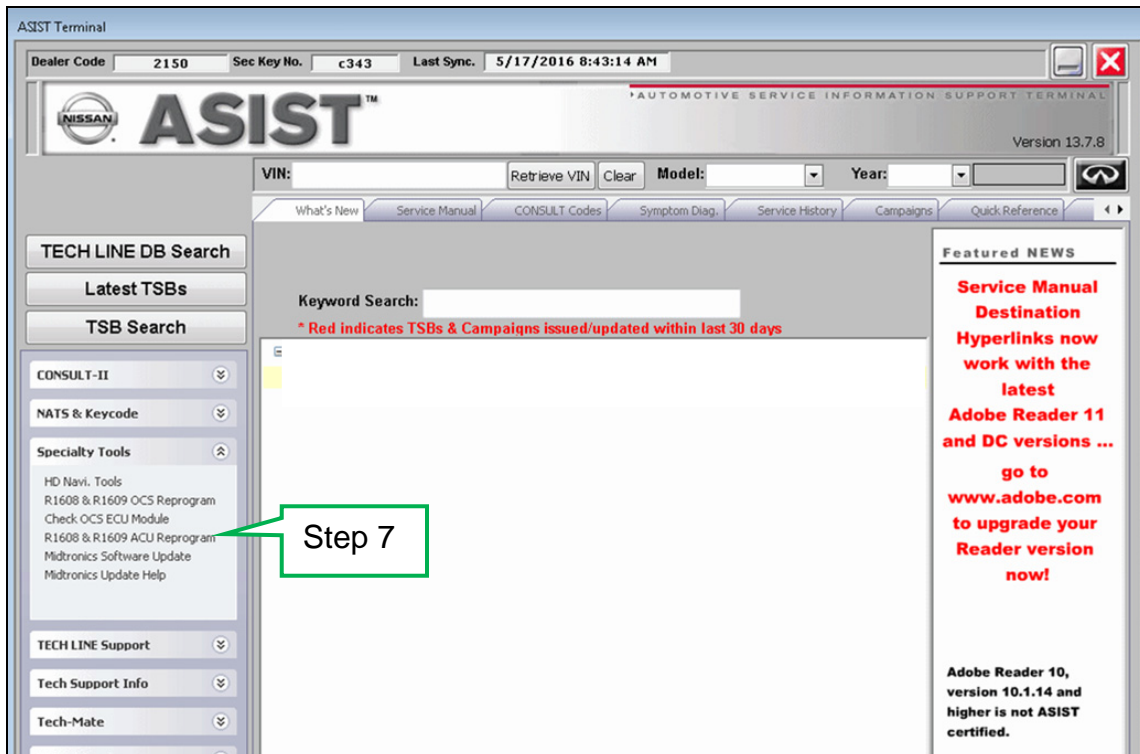

Figure 1
7. Start the CONSULT PC, open ASIST and then select “**R1608 & R1609 ACU Reprogram**” on ASIST under Specialty Tools (Figure 1).